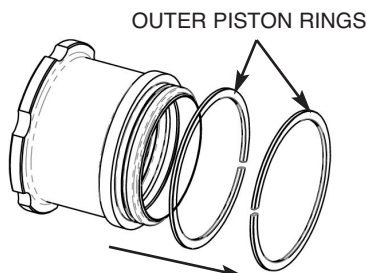

Figure 11B
3. With the retaining ring removed, slide the two outer piston rings off the piston (Figure 11B).